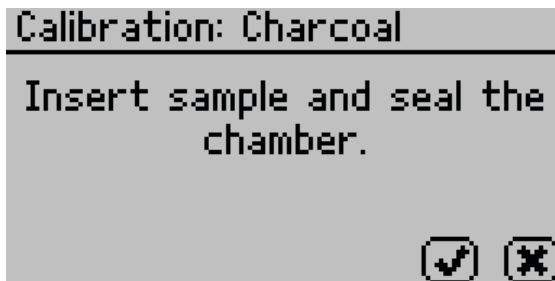

Figure 19 Prompt to place sample in chamber
13. Place a sample in the sample chamber when prompted (Figure 19).